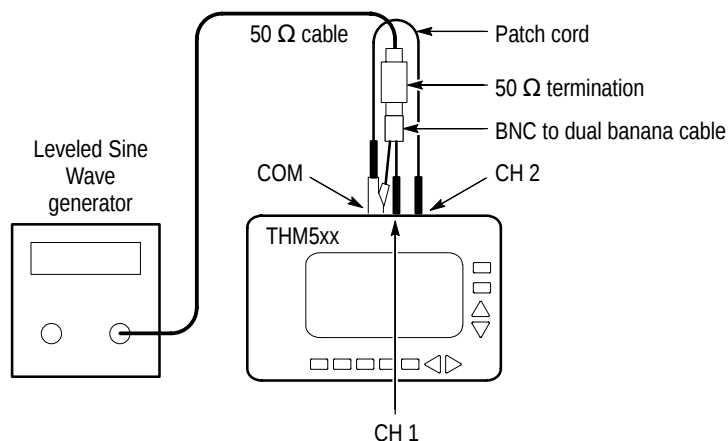

Figure 10: Crosstalk Between Scope Channels Test Setup
1. Connect the leveled sine wave generator output to the THM500 series instrument CH 1 and COM inputs. Use a 50Ω termination as shown in Figure 10. Assure that the ground connection for each adapter connects to the common (or ground) connector of its associated instrument.
2. Connect the THM500 series instrument CH 2 input to the COM input using a patch cord as shown in Figure 10.